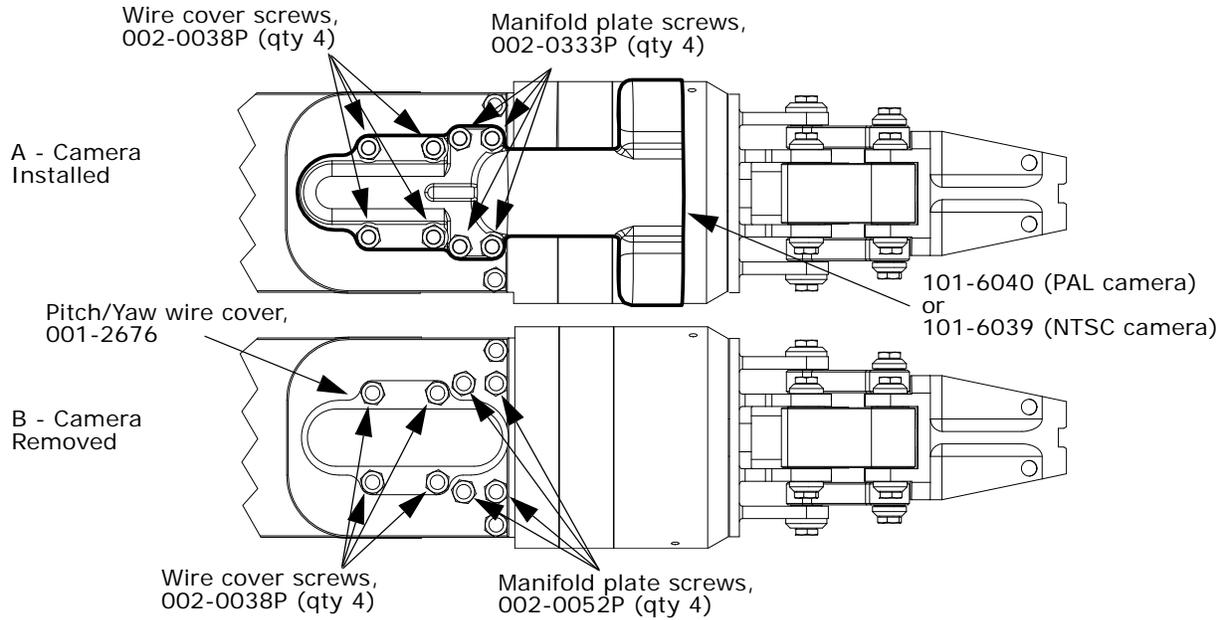

Figure 12
1. Remove the four wire cover screws, 002-0038P, from the camera assembly (Figure 12, A) and save for step 8.
2. Remove the four manifold plate screws (Figure 12, A). These screws will **not** be reused.
- 7.** Before installing the pitch/yaw wire cover (Figure 12, B):
8. Secure the pitch/yaw wire cover with the four wire cover screws removed in step 3. Lubricated the bolts with AquaShield and torque to 28.5 Nm (21 lbf/ft). See Figure 12, B.
9. Re-install four new manifold plate screws (002-0052P) to the yaw actuator (Figure 12, B). Do not use old screws. Lubricated the bolts with AquaShield and torque to 28.5 Nm (21 lbf/ft).